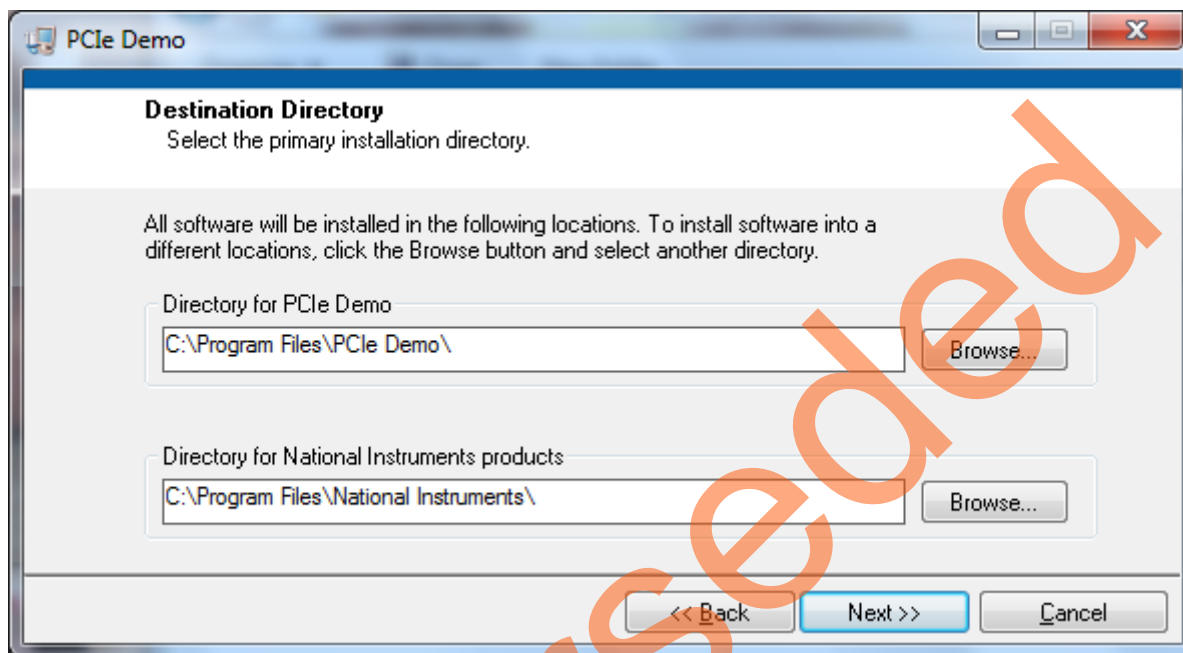

Figure 20 • GUI Installation
2. Double-click the **setup.exe** in the provided GUI installation (*PCIe_Demo_GUI_Installer\setup.exe*). Apply default options as shown in Figure 20.